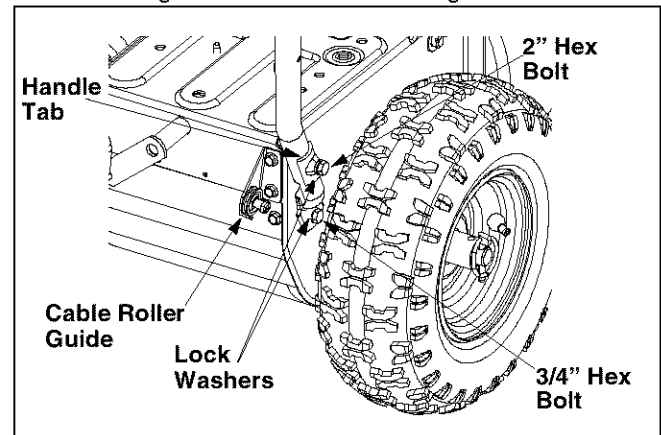

Figure 2
- Place right handle in position against the snow thrower so the flat side of the handle is against the snow thrower. Secure bottom hole in handle to snow thrower using 3/4" hex bolt and lock washer. Do not tighten at this time. See Figure 2.
- Place handle tab over the upper hole on the handle so the curve in the handle tab matches the curve of the handle. See Figure 2. Secure to the snow thrower using 2" hex bolt and lock washer; do not tighten at this time. Repeat on the other side. Do not tighten at this time.
- Tighten the four hex bolts used earlier to attach bottom of the handles to the snow thrower frame. See Figure 2.
- Make certain all cables are in the grooves of the cable roller guides located in the lower rear of the unit, one on each side. See Figure 2.